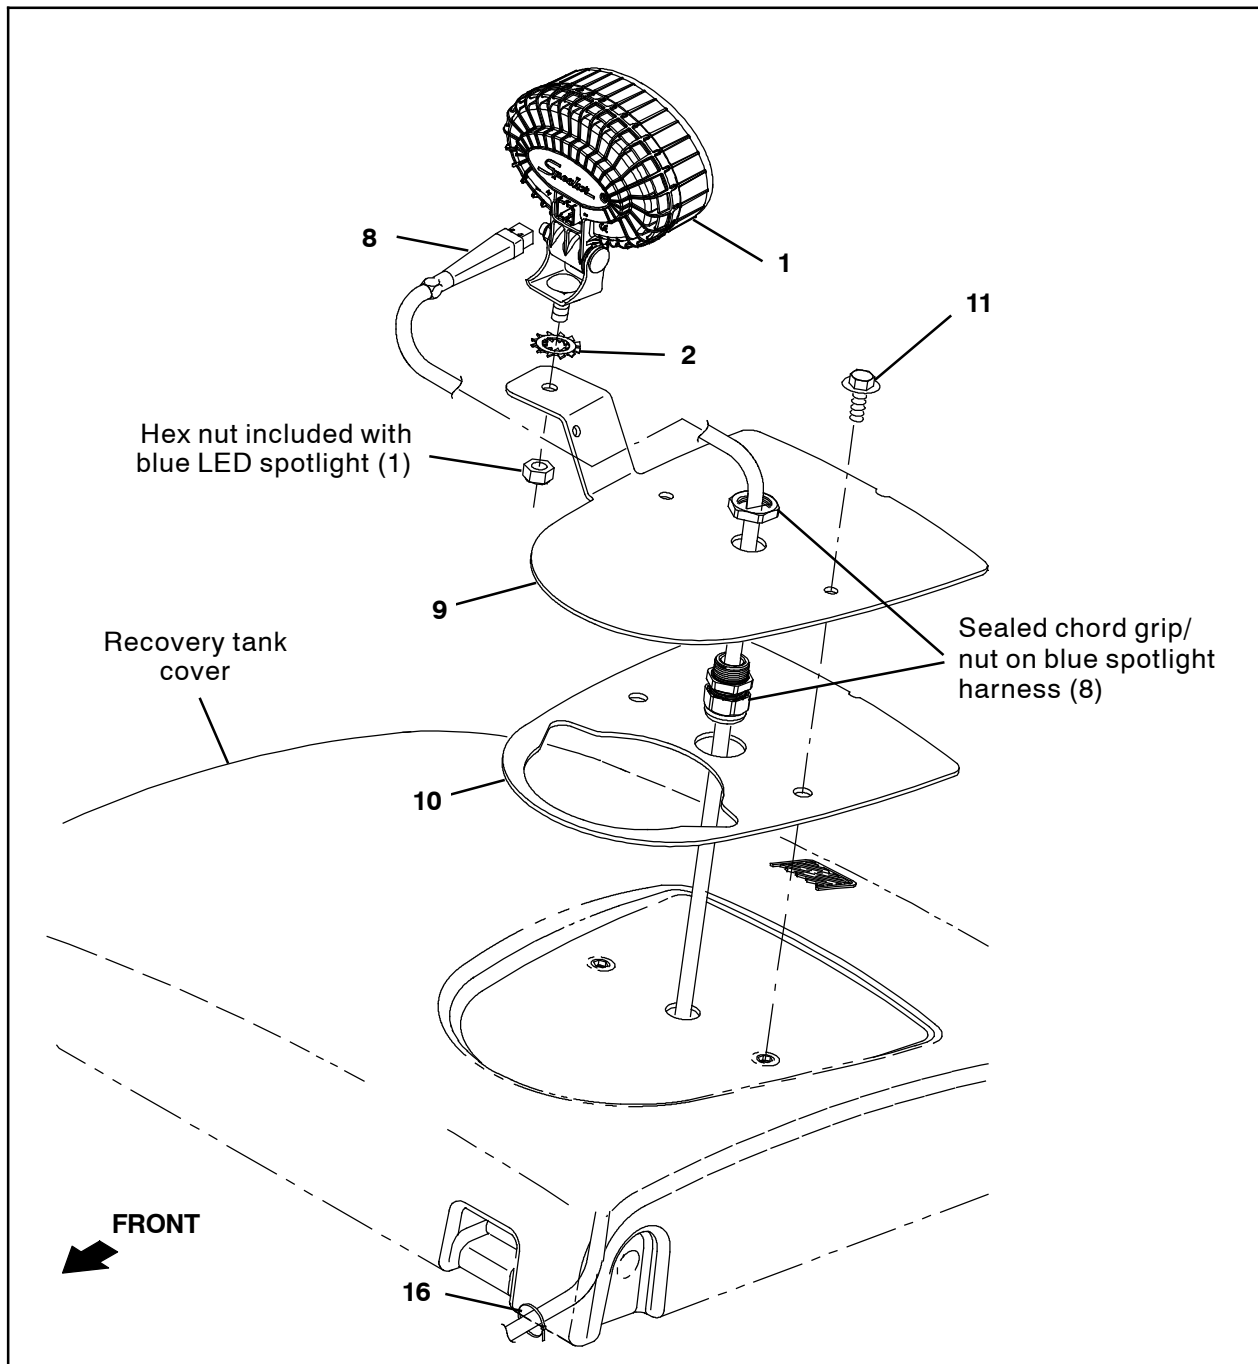

FIG. 15
24. Use two SEMS M8 hex screws (11) to loosely install the blue spotlight rear mounting bracket (9) onto the recovery tank and mark the location for a 2 in. (50 mm) to be drilled into the recovery tank cover. (Fig. 15)
25. Remove the rear mounting bracket (9) from the recovery tank and set the bracket and SEMS M8 hex screws (11) aside. (Fig. 15)
26. Use a 2 in. (50 mm) hole saw to cut a hole through the top of the recovery tank cover. **Do Not** cut into/through the bottom of the recovery tank cover. (Fig. 15)
29. Remove the backing from the module base gasket (10) and install the gasket onto the blue spotlight rear cover mounting bracket (9). (Fig. 15)
30. Use two SEMS M8 hex screws (11) to install the blue spotlight rear cover mounting bracket (9) onto the recovery tank cover. (Fig. 15)
31. Remove the hex nut included with the blue LED spotlight (1) from the light. (Fig. 15)
32. Use the hex nut removed from the blue LED spotlight (1) in the previous step and a lock washer (2) to install the blue LED spotlight onto the rear cover mounting bracket (9). (Fig. 15)
33. Remove the nut from the sealed chord grip on the blue spotlight harness (8). (Fig. 15)
34. Route the blue spotlight rear harness (8) blue LED light lead to be connected to the blue LED spotlight (1) through the 1 in. (25 mm) hole in the recovery tank cover and through the 2 in. (50 mm) in the top of the recovery tank cover/blue spotlight rear cover mounting bracket (9). (Fig. 15)
35. Connect the blue spotlight rear harness (8) to the blue LED spotlight (1). (Fig. 15)
36. Use the sealed chord grip/nut on the blue spotlight harness (8) to secure the harness to the recovery tank cover. (Fig. 15)